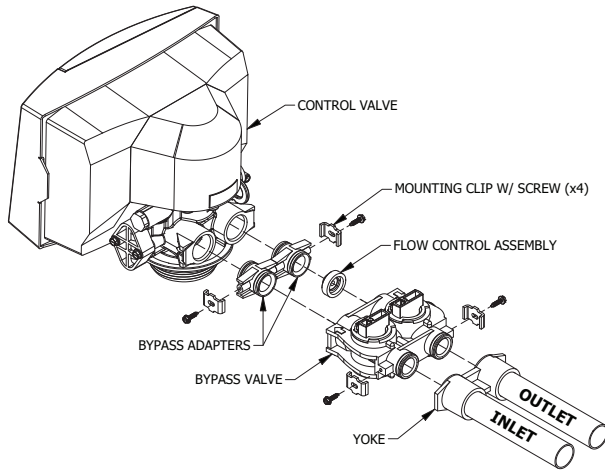

Figure 3
- Connect the raw water supply to the inlet pipe connection of the yoke. When looking at the front of the unit, the inlet is the pipe connection on the right side of the valve (see figure 3). There is an arrow molded into bypass valve indicating the direction of flow.
- Connect the treated water pipe to the outlet pipe connection on the yoke. When looking at the front of the unit, the outlet is the pipe connection on the left side of the valve (see figure 3). There is an arrow molded into the bypass valve indicating the direction of flow.
- Once the plumbing is complete, connect the yoke to the bypass valve (see figure 3).
- Install the flow control assembly between the bypass and the couplings, as indicated in Figure 3.